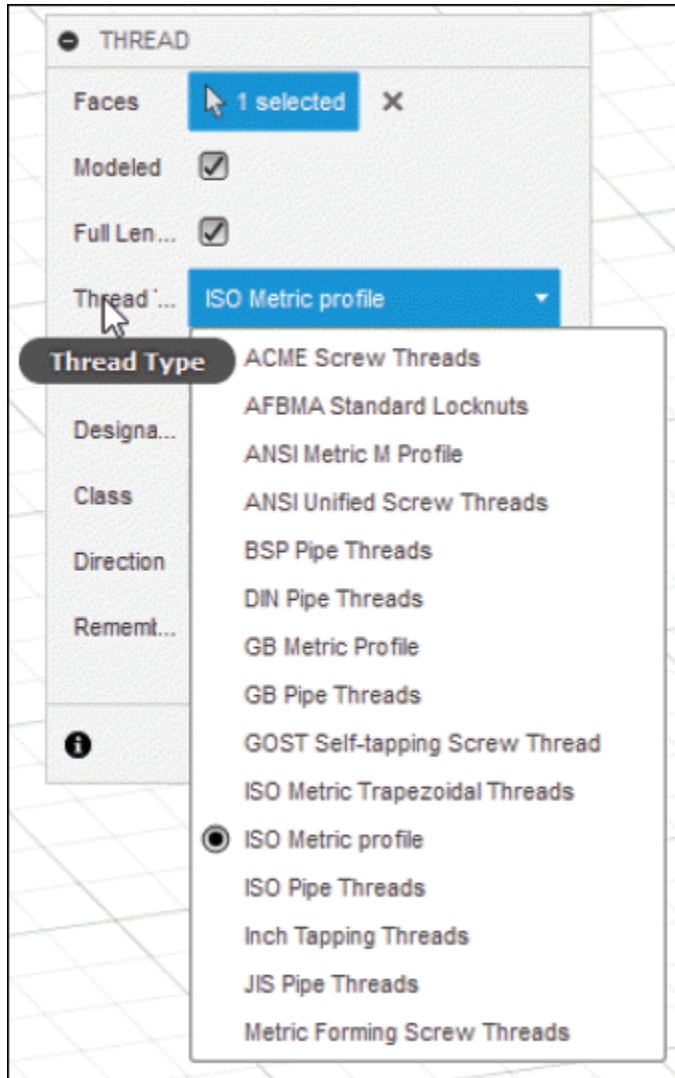

Figure-55. Thread Type drop down
- Click on the **Thread Type** drop-down to select the type of thread profile; refer to Figure-55. Most of the engineering thread profiles are available in this drop-down.